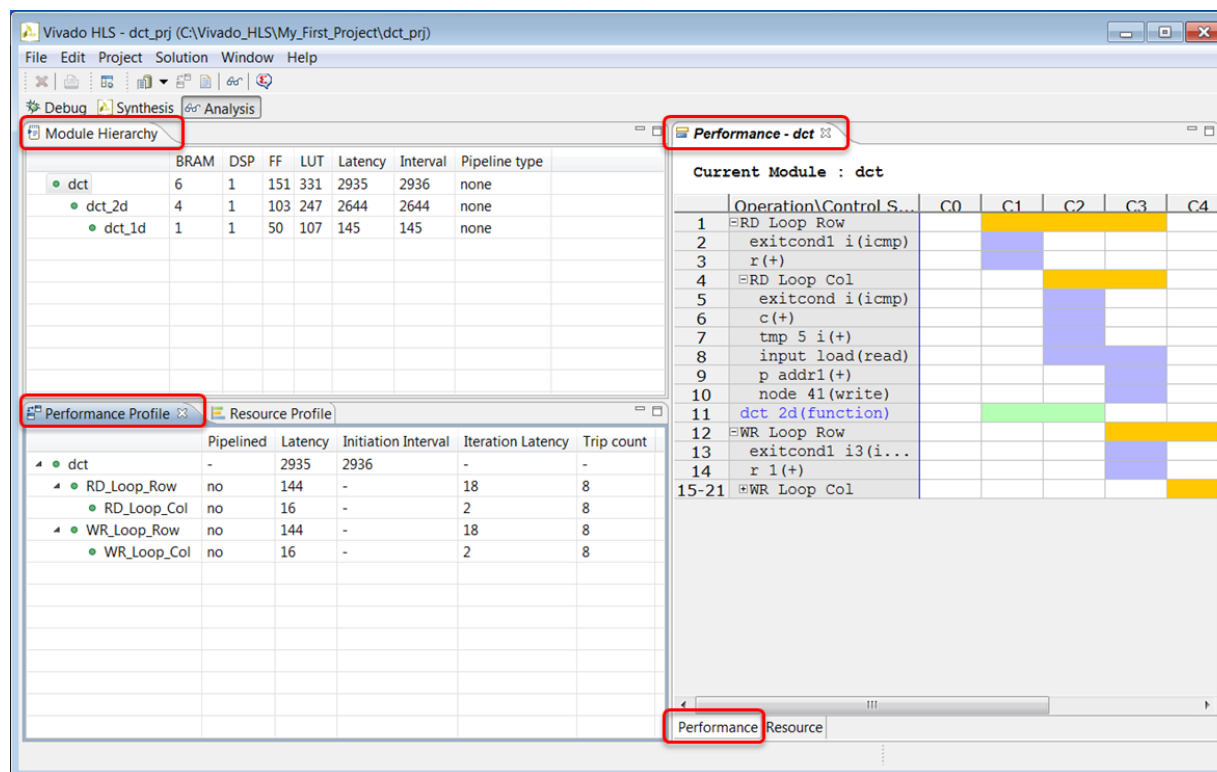

Figure 1-23: Analysis Perspective in the Vivado HLS GUI
- A loop called RD\_Loop\_Row. In Figure 1-23 the loop hierarchy for loop RD\_Loop\_Row has been expanded.